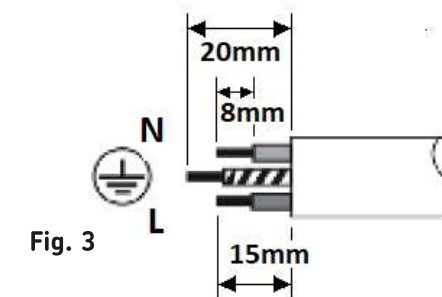

Fig. 3
- Prepare the supply cable as shown by stripping back the outer sheath and basic insulation to the correct length (see Fig. 3)